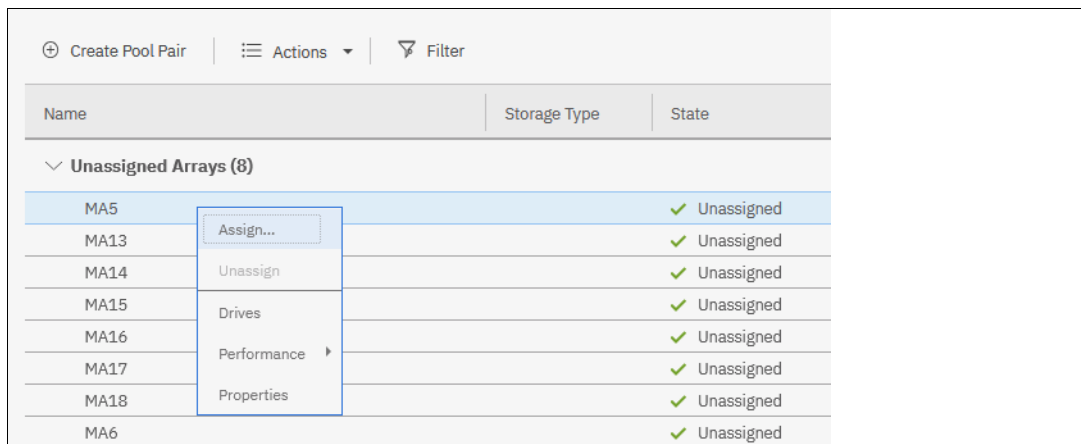

Figure 9-39 Unassigned Arrays and assigning them
- Assign arrays to the pool pair. Click **Unassigned Arrays** to display them, Right-click the array to be assigned and then **Assign** as shown in Figure 9-39 on page 256.